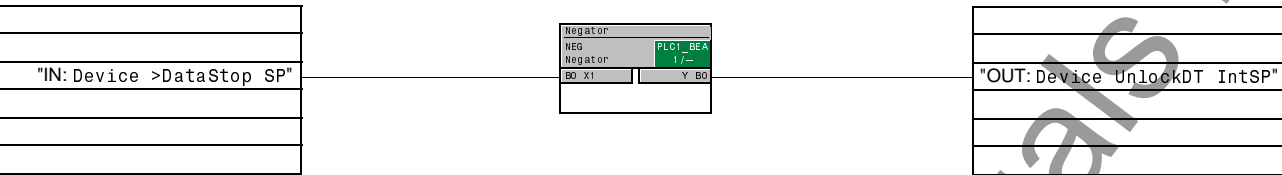
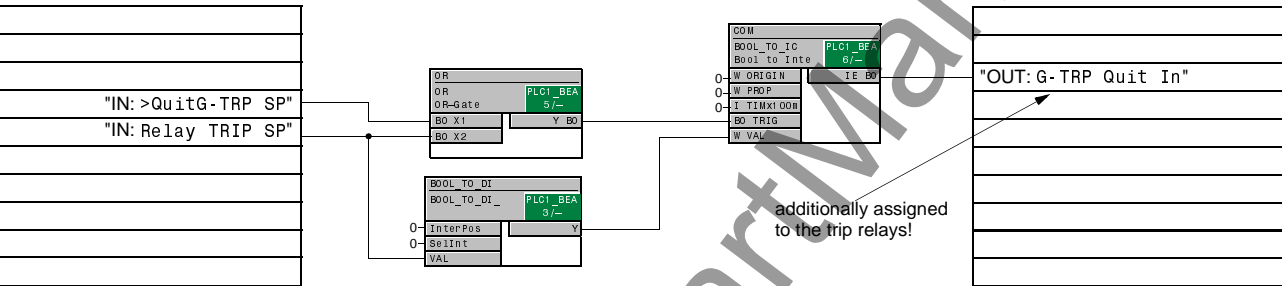

Figure A-16 CFC-chart for transmission block and testing mode
Figure A-17 CFC chart for reclosure lockout
Preset CFC–Charts 7UT612 provides worksheets with preset CFC-charts. Figure A-16 shows a chart which changes binary input “>DataStop” from single point indication (SP) to internal single point indication (IntSP). According to Figure A-17 an reclosure interlocking will be produced. It interlocks the closure of the circuit breaker after tripping of the device until manual acknowledgement.